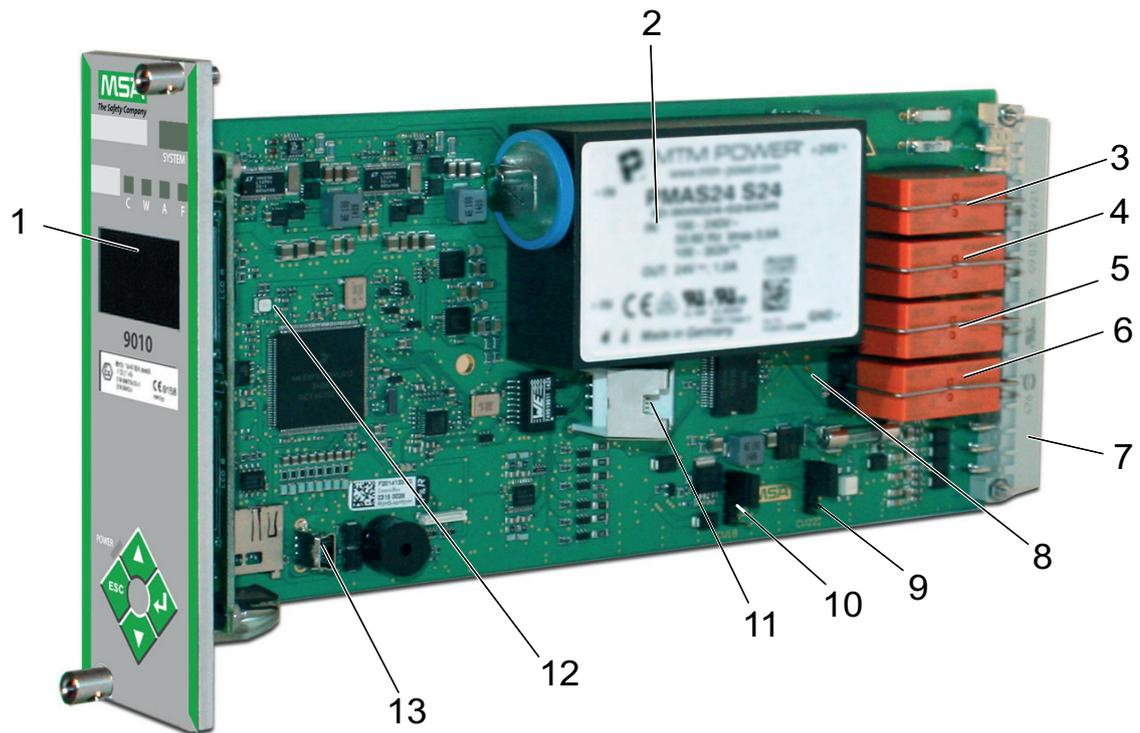

Fig. 1 19" rack module
- 19" rack module - to be used as plug-in module into a standard 19" rack (Fig. 1 and Fig. 2)